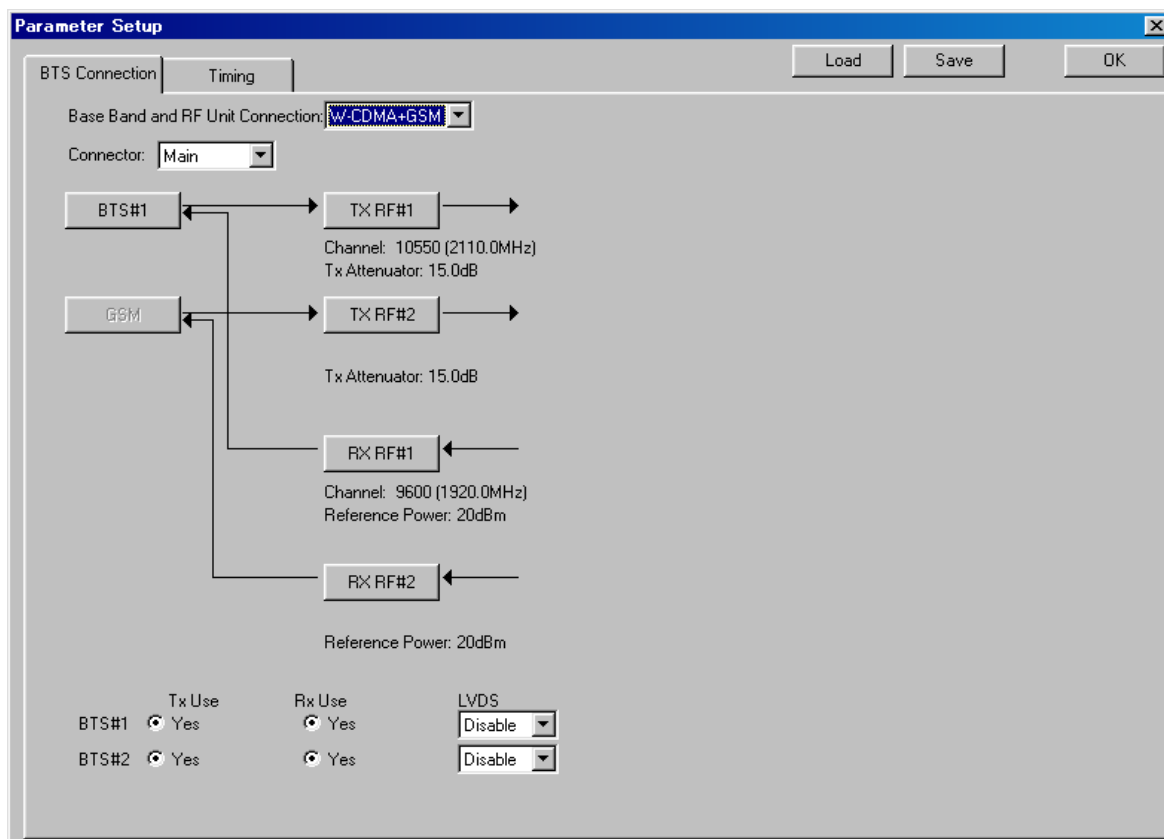

Figure E4-1 Parameter setup screen
- 1) Click “SETUP” button on Control Software, it will appear “Parameter Setup” screen shown in figure E4-1.